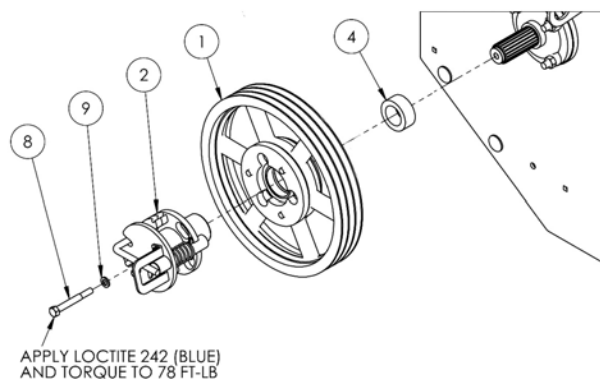

Figure 23: Install Chopper Sheave & Clutch on Rear Flail Shaft
19. Install the chopper drive sheave and clutch onto the rear flail drum shaft according to the chart and drawing, see *Figure 23*.